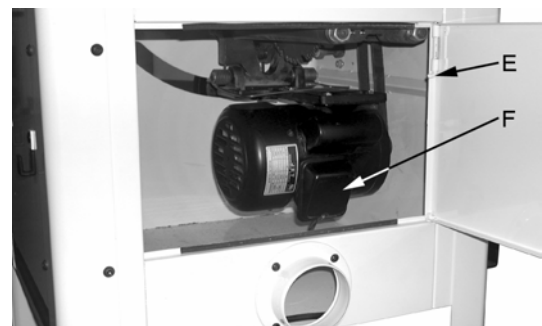

Figure 40
Helpful Hint: Removing the rear access door by pulling the release lever (E, Fig. 40) will facilitate reaching the front hook mounting hole.
3. You can remove the door by pulling the door release lever down (E, Fig. 40).
4. Remove the cover from the motor junction box (F, Fig. 40).